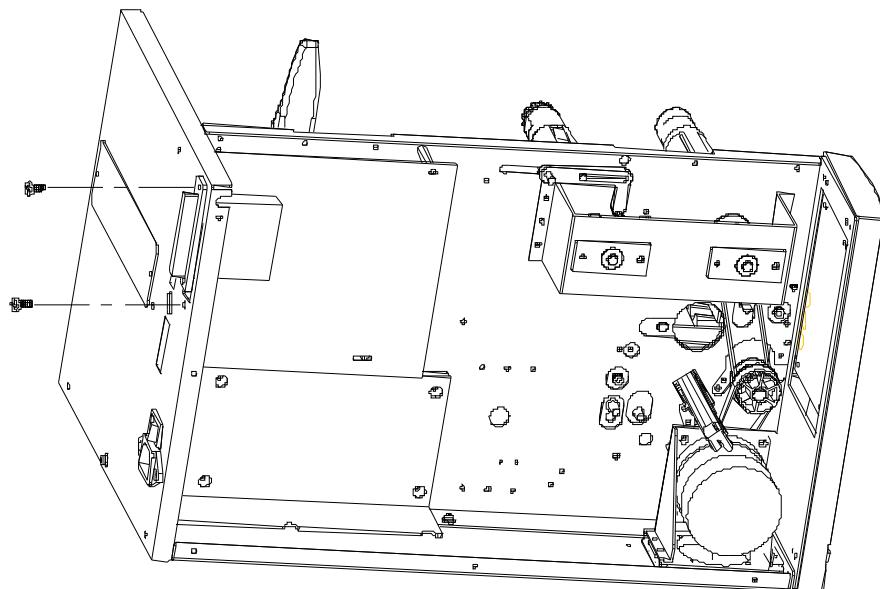

Figure 10.2.1
3. Remove the 2 screws on the centronics (Fig. 10.2.1).